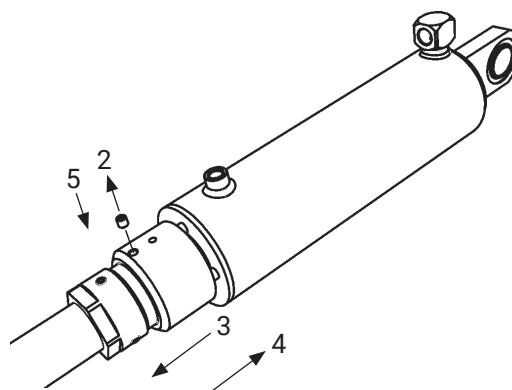

Figure 45. End stop with lock screw
2. Loosen the lock screw of the end stop (2). Screw the stop all the way back toward the platform (3). Figure 45.
4. Adjust the end stop all the way to the top of the cylinder (4). Figure 45.